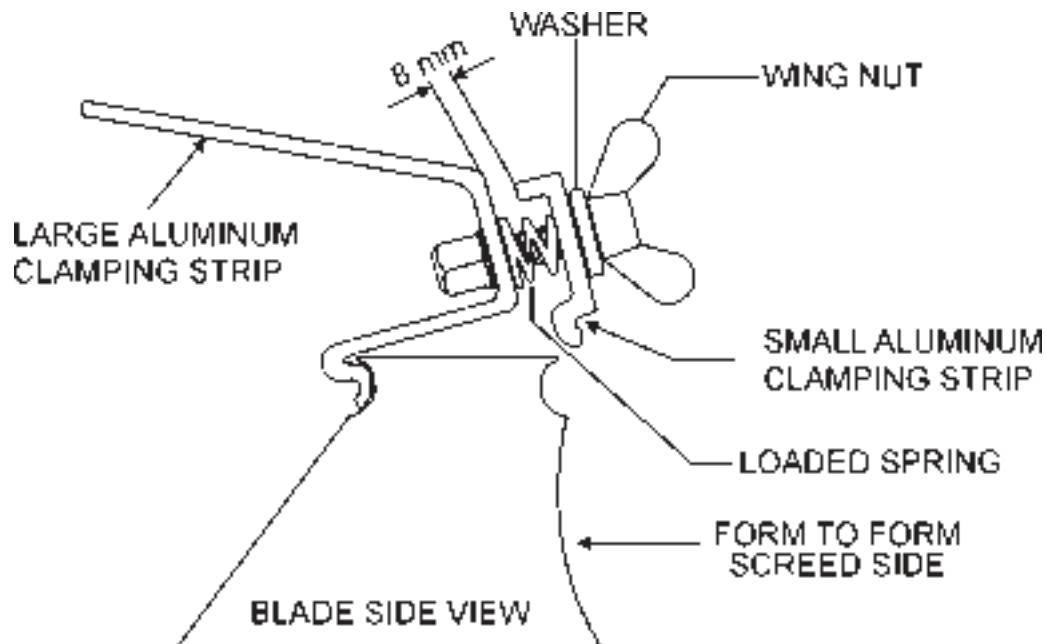

Figure 3. Blade Quick Disconnect System
2. The aluminum clamping strip (retaining plate) is located at the base of the power unit. This clamping strip is what holds the blade in place with the aid of three quick disconnect spring loaded wing nuts (Figure 3) that can either be tightened or loosened by hand.
3. Determine whether you will be using the DuoScreed on **forms** or as a **wet screed**. This will decide how the power unit will be mounted. If the DuoScreed will be used as a wet screed the wing nuts should be located above the smooth edge of the blade. If the DuoScreed will be used on forms (Figure 3) the wing nuts should be located above the curled edge of the blade.
6. Place the front of the power unit over the blade (Figure 3) until the front of the clamp is seated within the front blade collar.
Before placing the DuoScreed in concrete, make certain the unit has been set up (blade) for **wet screeding**. This can be verified by observing that the operator's toes are pointing towards the smooth side of the blade (Figure 3), from the operators's position (handle bars).